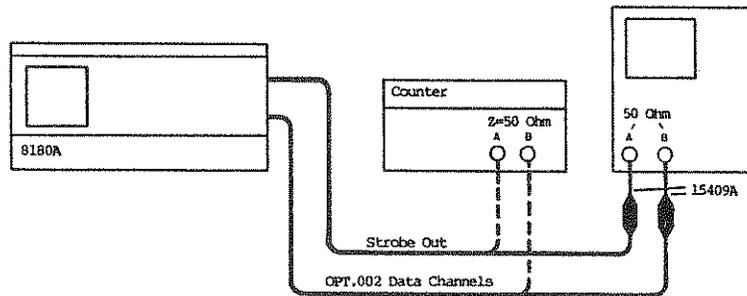

Figure 4-5 Delay Test Setup
7. Connect equipment as shown in Figure 4-5 and press **RUN**.